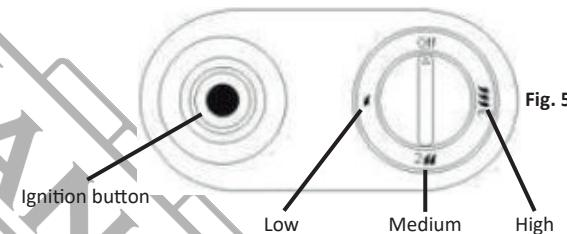

Fig. 5
### Gas control knob (Fig. 5)
### Piezoelectric ignition button (Fig. 5)
2. Open the gas cylinder by turning the gas cylinder valve counterclockwise. Turn the gas control knob on the heater to the "Low" position (fig. 5).
4. While holding down the control knob, push the piezoelectric ignition button (fig. 5) 2 or 3 times. Each time you push the piezoelectric ignition button you will hear a clicking sound as well as see a spark on the pilot burner.
1. Turn the gas control knob to the "Low" position (fig. 5) and close the gas cylinder valve by turning the knob on the gas cylinder clockwise.